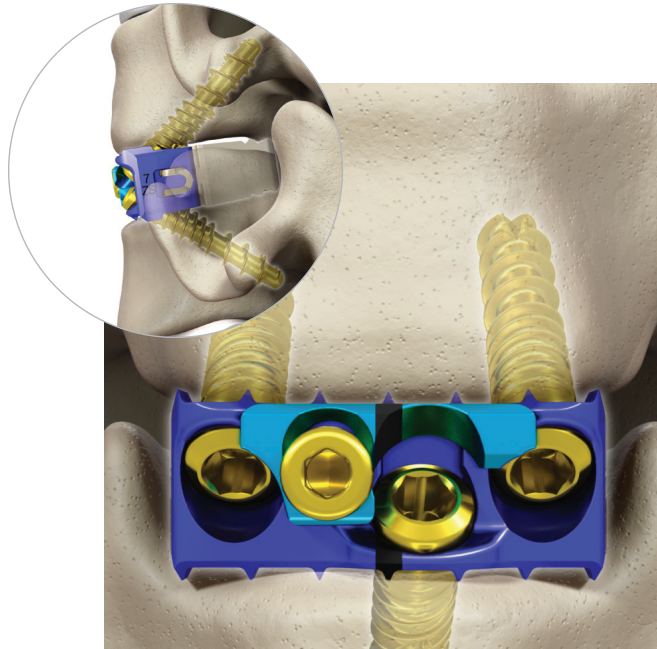

Figure 75
- Completely engage the 2.0 mm hex driver in each screw head and fully seat all bone screws (Figure 75).